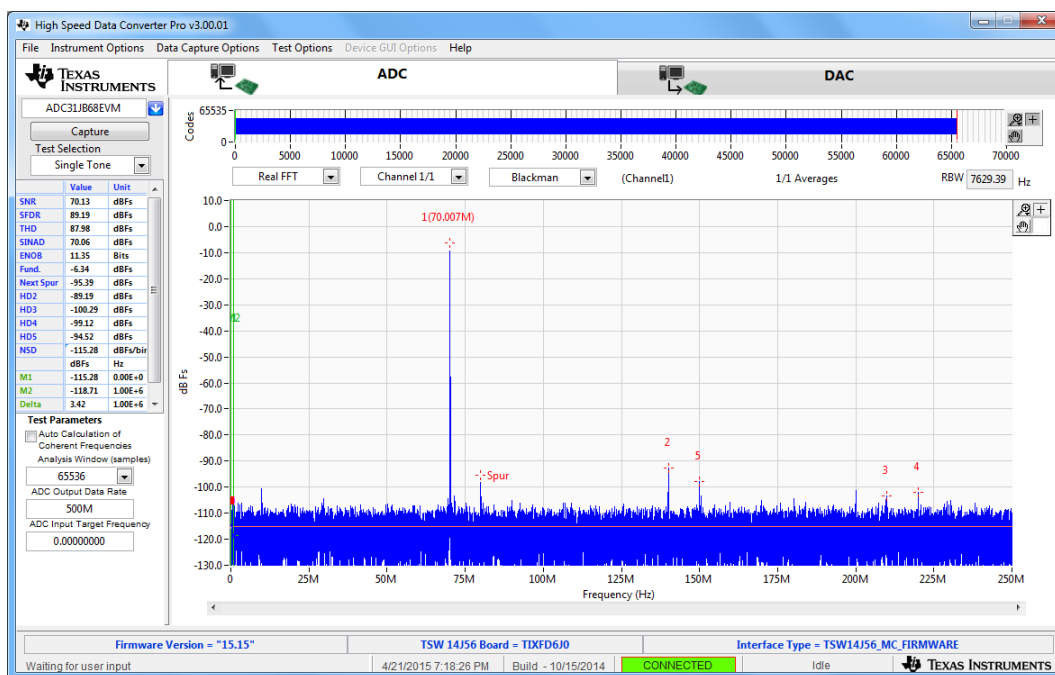

Figure 4. Data Capture Results From Quick Start Procedure
8. The results from the captured data of Channel 1 should resemble Figure 4 and the performance should be similar to Table 1. If this result is not achieved, then see the Quick Start Trouble Shooting section of this document.